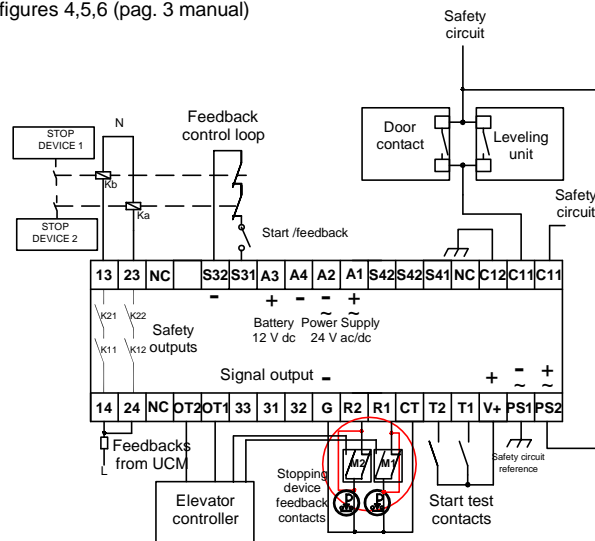

FIG. 2 Fault simulation of the stopping element
- 4) Shortcircuit the input R1,R2 as indicated fig.2 (AnnexA)